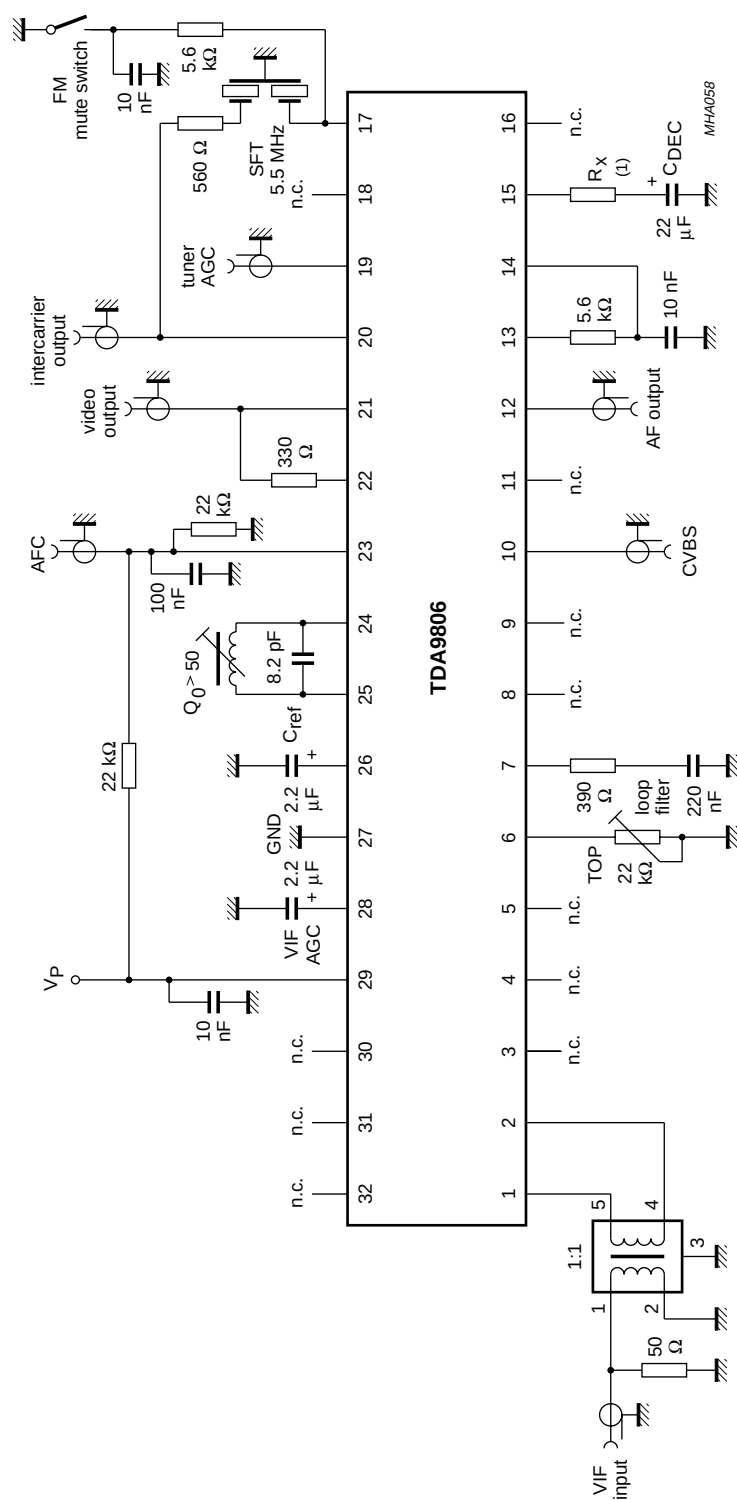

Fig.10 Test circuit.
18. Measured with an FM deviation of 27 kHz the typical AF output signal is 500 mV (RMS) ($R_x = 0\ \Omega$; see Fig.10). By using $R_x = 470\ \Omega$ the AF output signal is attenuated by 6 dB (250 mV RMS). For handling an FM deviation of more than 53 kHz the AF output signal has to be reduced by using R_x in order to avoid clipping (THD < 1.5%). For an FM deviation up to 100 kHz an attenuation of 6 dB is recommended with $R_x = 470\ \Omega$.
22. The PC/SC ratio at pins 1 and 2 is calculated as the addition of TV transmitter PC/SC ratio and SAW filter PC/SC ratio. This PC/SC ratio is necessary to achieve the S/N (W) values as noted. A different PC/SC ratio will change these values.